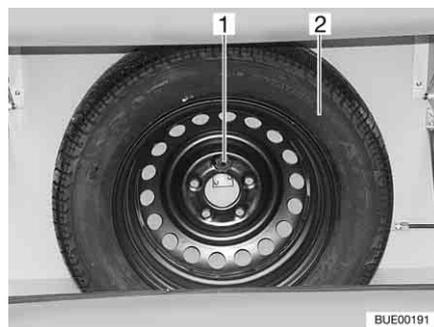

Fig. 236 Spare wheel support
The spare wheel support is fitted in the gas bottle compartment. The spare wheel (Fig. 236,2) is available for a surcharge.
- Undo bolt (Fig. 236,1).
- Remove the spare wheel (Fig. 236,2).